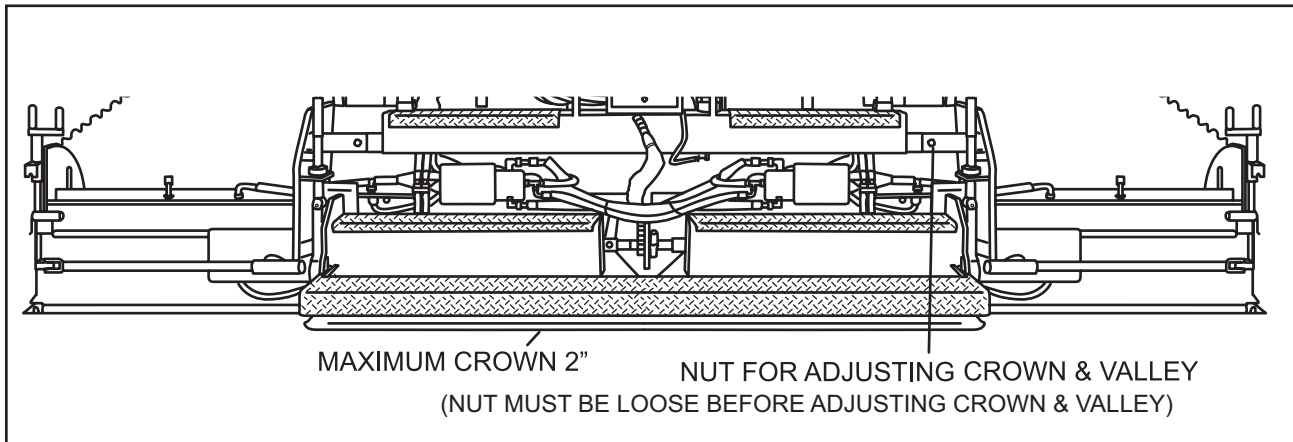

FIGURE 3-20. MAXIMUM CROWN
3. Set crown control. The screed plate is a one-piece unit, which is bent to provide the required crown setting (see Figures 3-20 and 3-21).
4. To get exact crown or valley, measure the distance between a flat level surface to the center bottom portion of screed (see Figure 3-20). Make adjustments with crown and valley control.